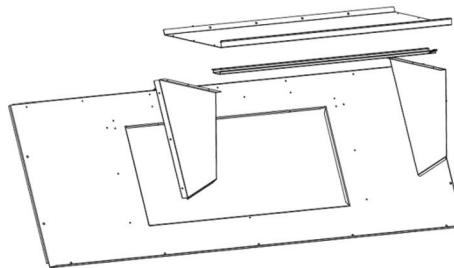

Fig. 18 — Barometric Hood Exploded View
3. Install parts as shown in the following exploded view (see Fig. 18) using the seal strip and screws provided in the parts box.